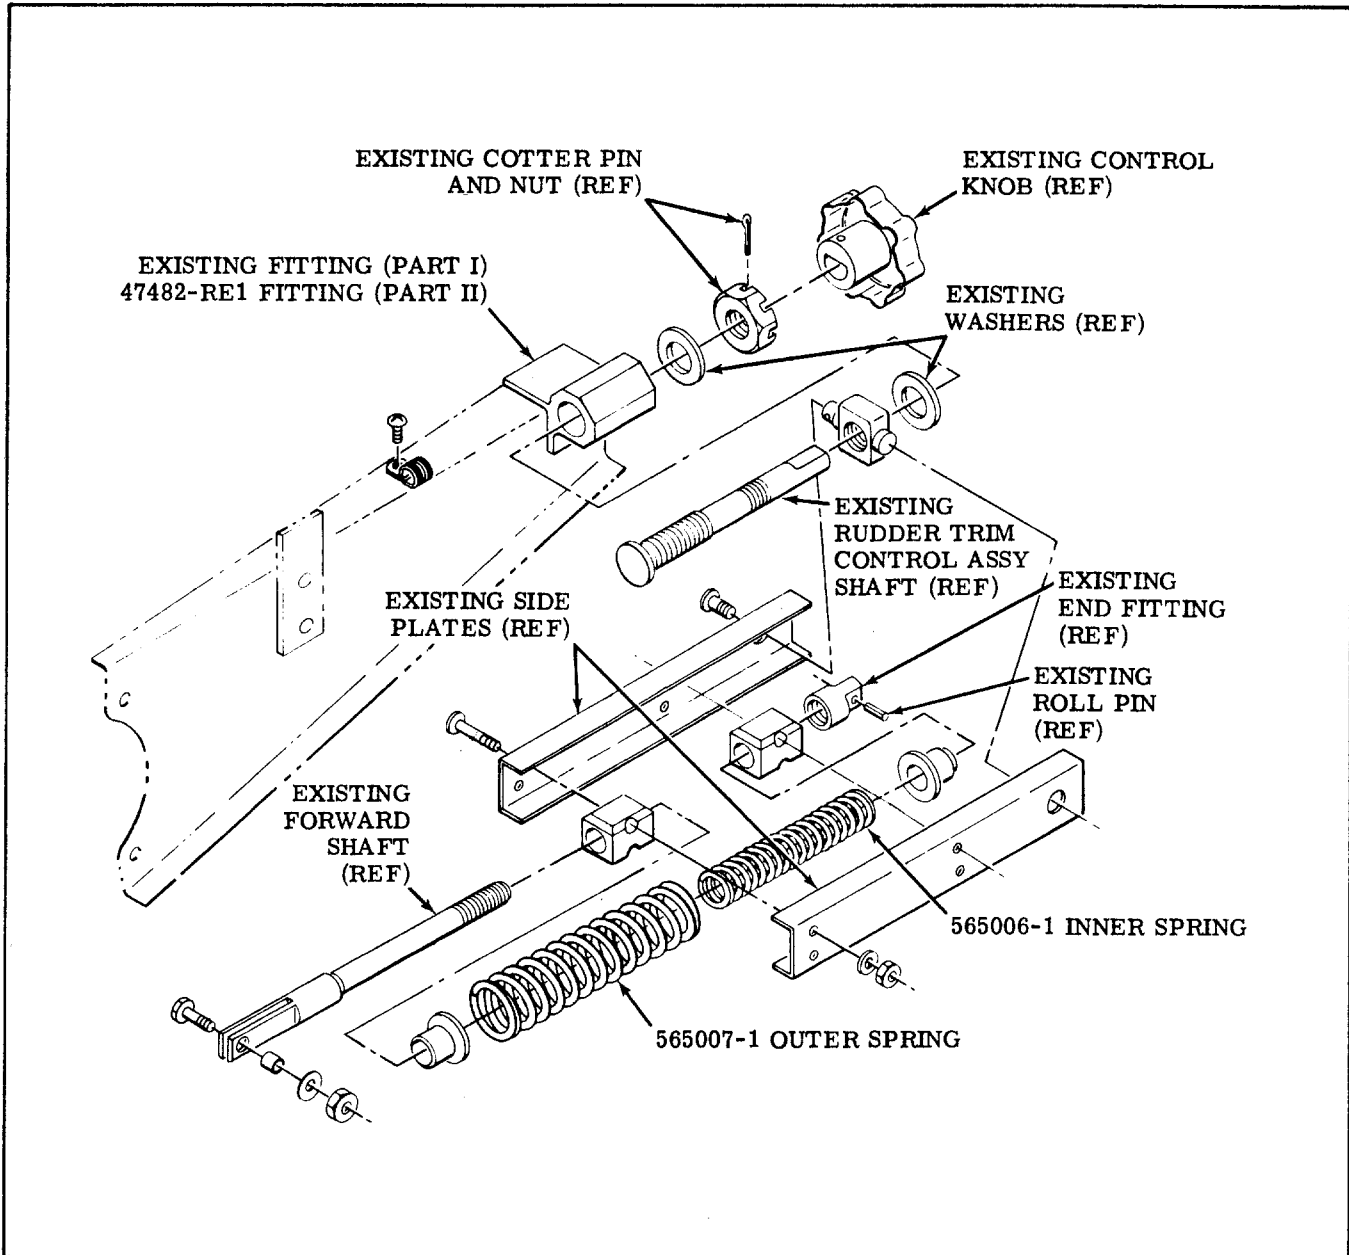

Figure 2.
10. Install new 565006-1 inner spring and 565007-1 outer spring and reassemble rudder trim control assembly (see Figure 2.).
12. Reinstall existing washers, nut and cotter pin, removed in step 1., and rudder trim control assembly knob (see Figure 2.).
5. Install new 565006-1 inner spring and 565007-1 outer spring and reassemble rudder trim control assembly (see Figure 2.).
6. Remove and discard existing fitting from rudder trim control assembly bracket (see Figure 2.).
8. Place existing washers and 47482-RE1 fitting on rudder trim control assembly shaft (see Figure 2.).